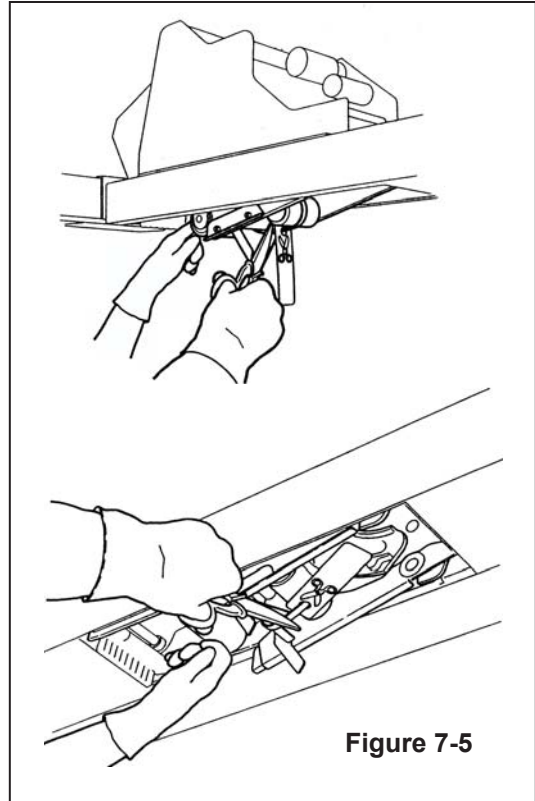

Figure 7-5
2. Cut the plastic ties holding the upper and lower taping heads in position. Hold taping head buffing roller while cutting the plastic tie. Allow buffing/applying arms to extend slowly (**Figure 7-5**).